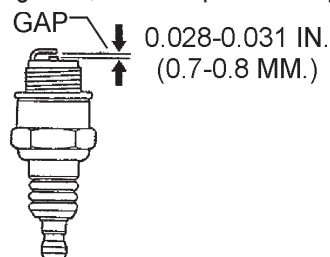

Figure 19. Spark Plug Gap
- Remove and clean the spark plug (Figure 19), then adjust the spark gap to 0.024 ~0.028 inch (0.6~0.7 mm). This unit has electronic ignition, which requires no adjustments.